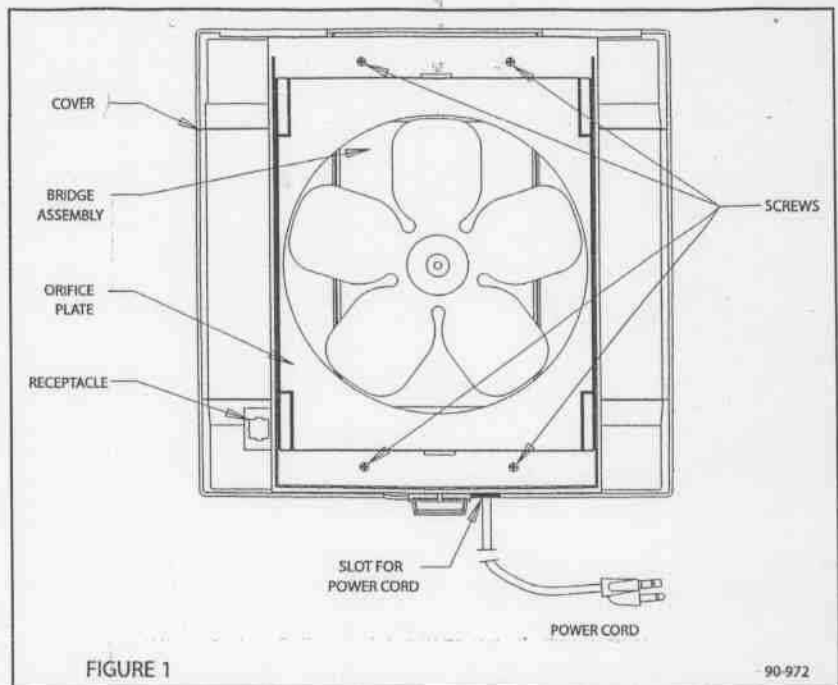

FIGURE 1
Refer to Figures 1 and 2 for component names and locations
13. With fan blade facing up, place bridge assembly back into cover. Make certain power cord is lined up with slot in cover. (Refer to Figure 1.) On newer style units with the notch in the bridge, make certain the yellow and brown wires are inside the notch and not pinched between bridge assembly and cover.
14. Re-attach orifice plate to bridge assembly in the orientation shown in Figure 1. Use the four screws removed in Step 4.